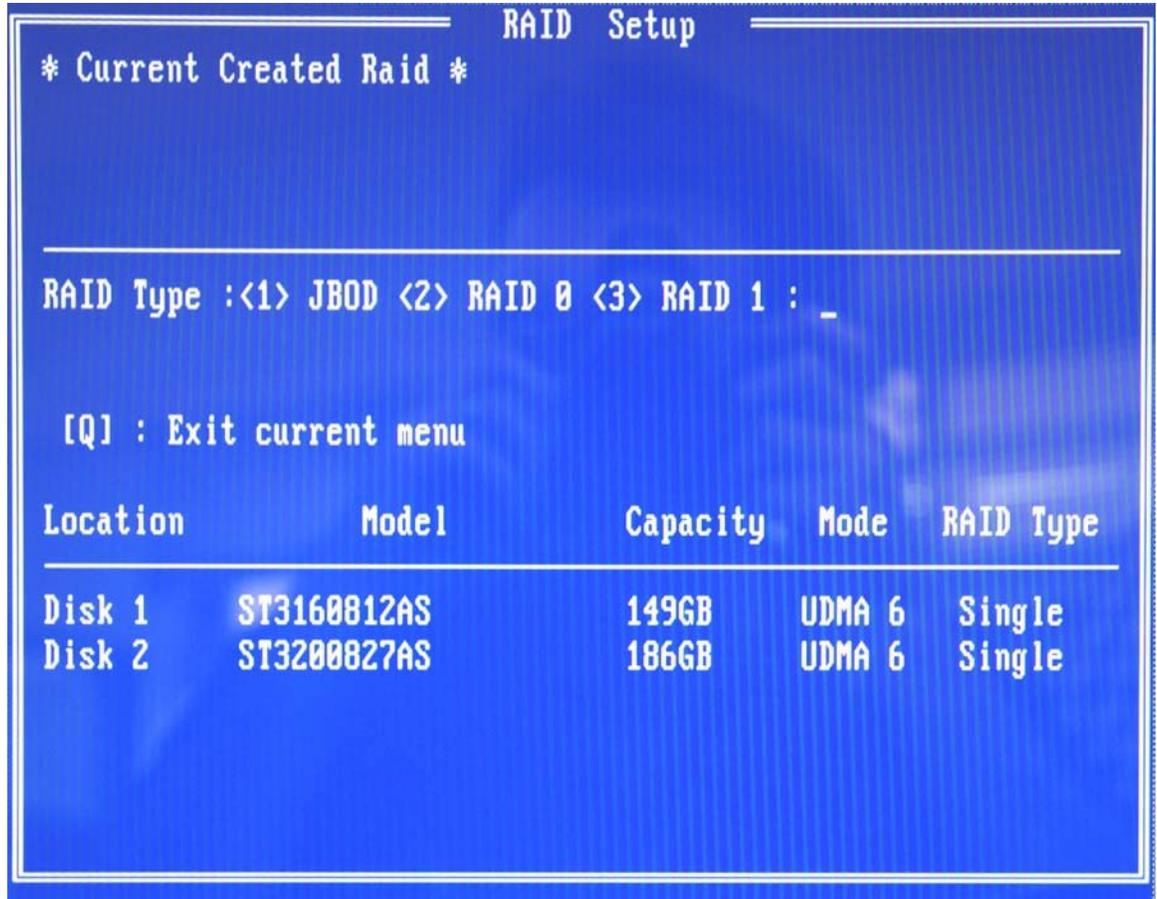

Figure D-6: Create RAID
- Step 5:** The system then prompts the user to select the RAID configuration type. JBOD, RAID0 or RAID1. Select the desired RAID configuration (see **Figure D-6**).